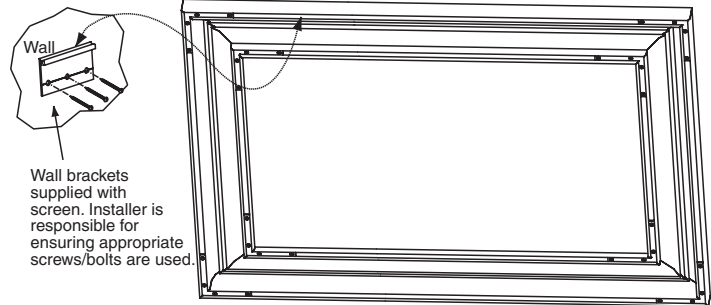

Figure 11
- ③ Insert opposite side of surface to notch #1 of frame extrusion.
- ④ Repeat steps 2-3 with remaining edges of surface.
- ⑤ Ensure surface retention extrusions are centered lengthwise in tension slots on all 4 edges of surface.
- ⑥ If additional tension is desired or required over time, adjust surface one edge at a time to tension notch #2.
- ① Determine height at which screen is to be mounted.
- ② Mark hole centerline so that both wall brackets can be mounted parallel and at equal height.
- ③ Install wall brackets so that the outermost edges are safely within overall length of the aluminum frame extrusion to allow for minor horizontal screen adjustments. *Installer is responsible for providing attachment hardware.*
- ④ Position screen slightly above Z-brackets on wall (see Fig. 11).